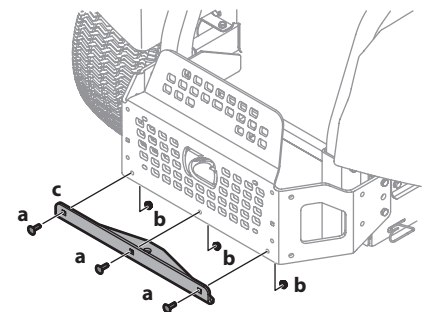

Figure 2-10
1. Remove the hex flange screws (a) and flange lock nuts (b) that secure the hitch bracket (c) to the bumper bracket. See Figure 2-10.